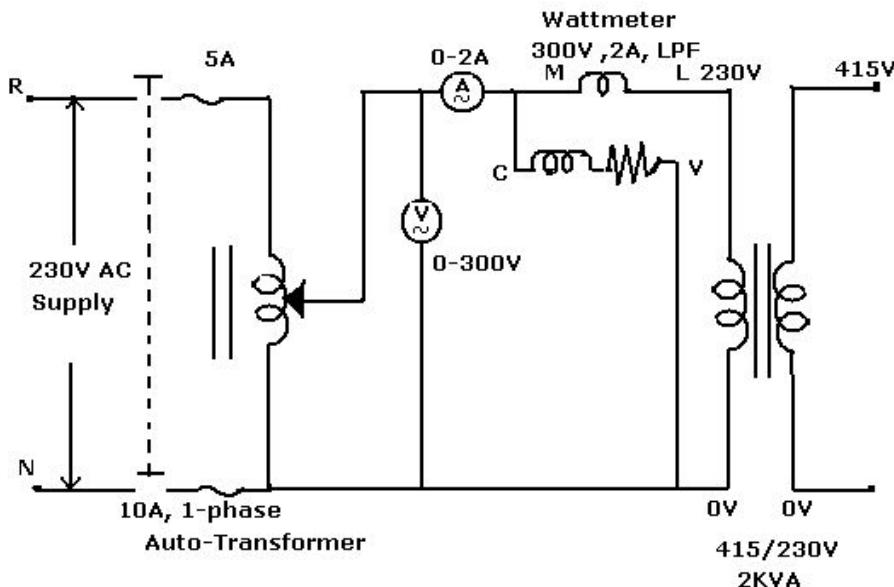

Fig.1.1: Open Circuit Test
In open circuit test, usually HV side is kept open and meters are connected on LV side as shown in the fig.1.1. When rated voltage is applied to the LV side, the ammeter reads the no-load current  $I_0$  and watt meter reads the power input . The no load current  $I_{NL}$  is 2 to 5% of full load current. Hence, the copper losses at no-load are negligible. We represent the iron or core losses. Iron losses are the sum of hysteresis and eddy current losses.
- \* Connect the circuit diagram as shown in the figure 1.1